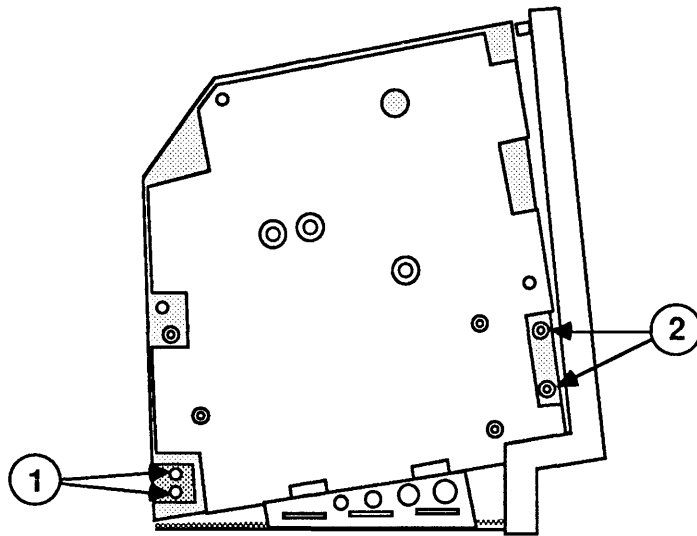

FIGURE 7
7. Using the small Phillips screwdriver, remove the two lower left analog board screws and the metal clip (Figure 7, #1).
8. Remove the two lower right analog board screws (Figure 7, #2).